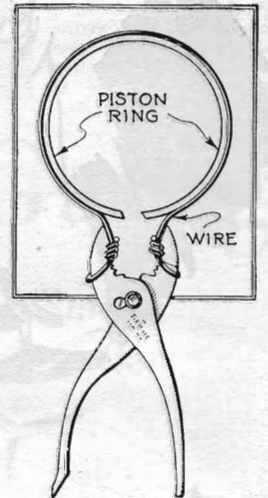

Fig. 4. Novel piston ring compressor made from pliers.
W. Conway, of Syosset, N. Y., wins this month's \$10 prize for his suggestion of a piston ring compressor, shown in Fig. 4. Each month POPULAR SCIENCE MONTHLY awards \$10, in addition to regular space rates, for the best idea sent in for motorists. Other contributions used are paid for at the usual rates.